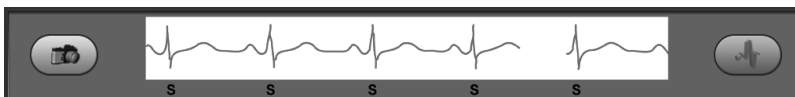
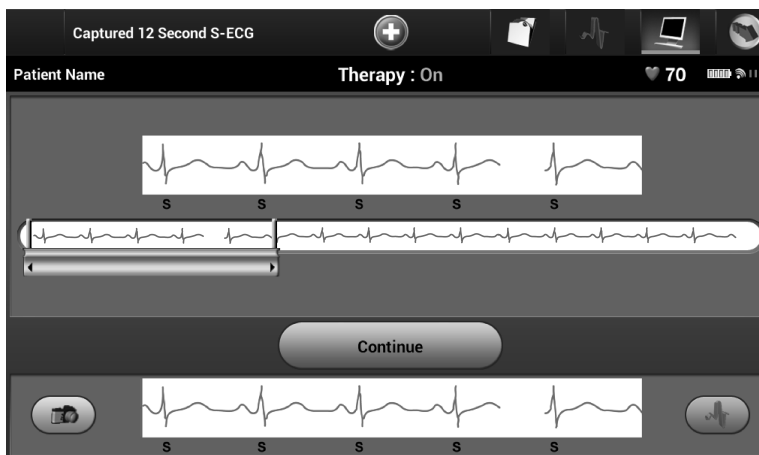

Figure 40: Select the Capture S-ECG button
Figure 41: Captured S-ECG rhythm strip
1. Select the Capture S-ECG button located to the left of the Live S-ECG window (Figure 40). The S-ECG will scroll across the display screen. Calipers appear below the Captured S-ECG rhythm strip (Figure 41). Each 12-second recording is date and time stamped according to the programmer's date and time setting.